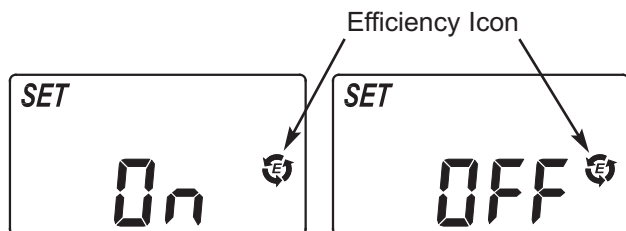

FIG. 24
1. Press and hold the SELECT/MENU button until the screen in Figure 23 is displayed. Once in this display, press the SELECT/MENU button once and one of the two displays in Figure 24 is shown.